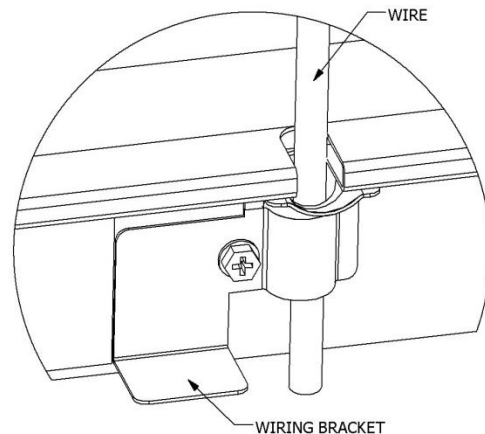

FIG. 3 - FAN WITH LIGHT
2. For a damper used with a fan equipped with a grill light, route the wire from the grille through the notch on the damper frame. Use the supplied bracket to secure the wire to the damper frame. Attach the bracket to the frame using one of the supplied #8-18 screw (see Figure 3)